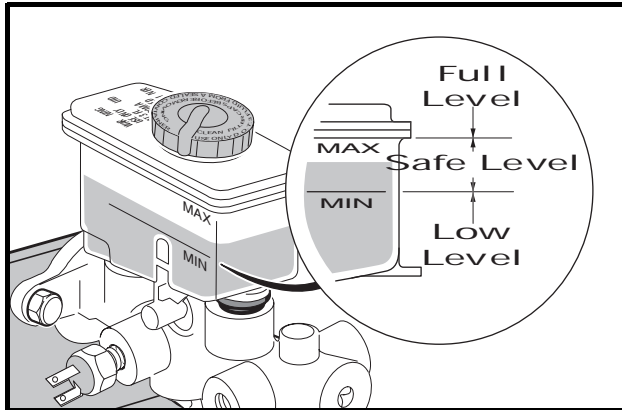

Figure 6-24 Master Cylinder Reservoir
NOTE: Do not allow the brake fluid in the master cylinder reservoir to drop below the “min” level mark at any time during the brake bleeding procedure (**Figure 6-24, Page 6-33**).
14. Fill the master cylinder reservoir to the “MAX” level with DOT 5 brake fluid (**Figure 6-24, Page 6-33**).